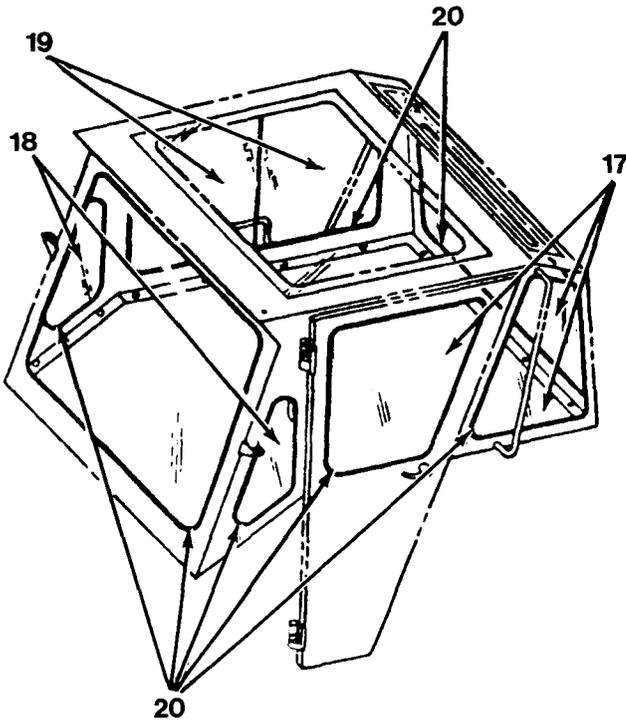

Figure 14-4
1. If necessary, remove glass panels (17), (18) and (19), using a pointed object to remove from weather strips (20, Figure 14-4).
2. If necessary, remove weather strips (20).